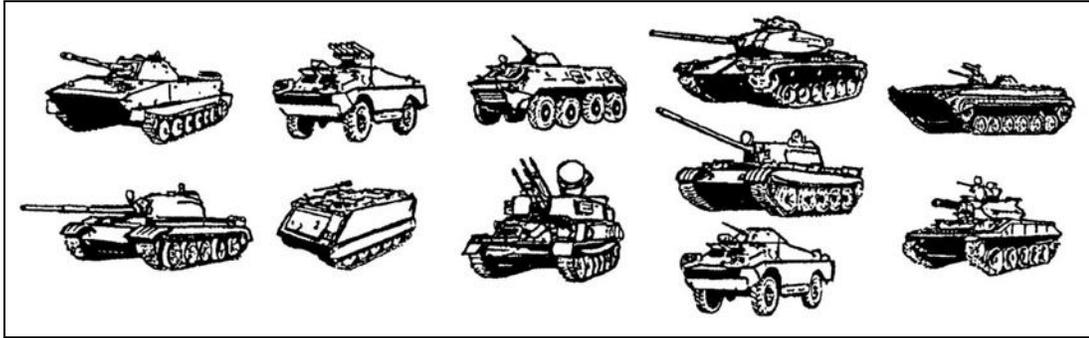

Figure 4-12. Armored vehicle scale models.
c. **Scale Models.** Armored vehicle scale models can be used to train crews in target acquisition, range determination, and vehicle identification. These models are three-dimensional and are made of a hard plastic. Scale models enhance preliminary gunnery training such as range determination, gun lay, and combat vehicle identification. Table 7-1, page 4-2 is used when determining scale versus combat ranges. The local Training Support Center (TSC) can provide scale models in 1:10, 1:30, 1:35, and 1:60 (Figure 4-12).